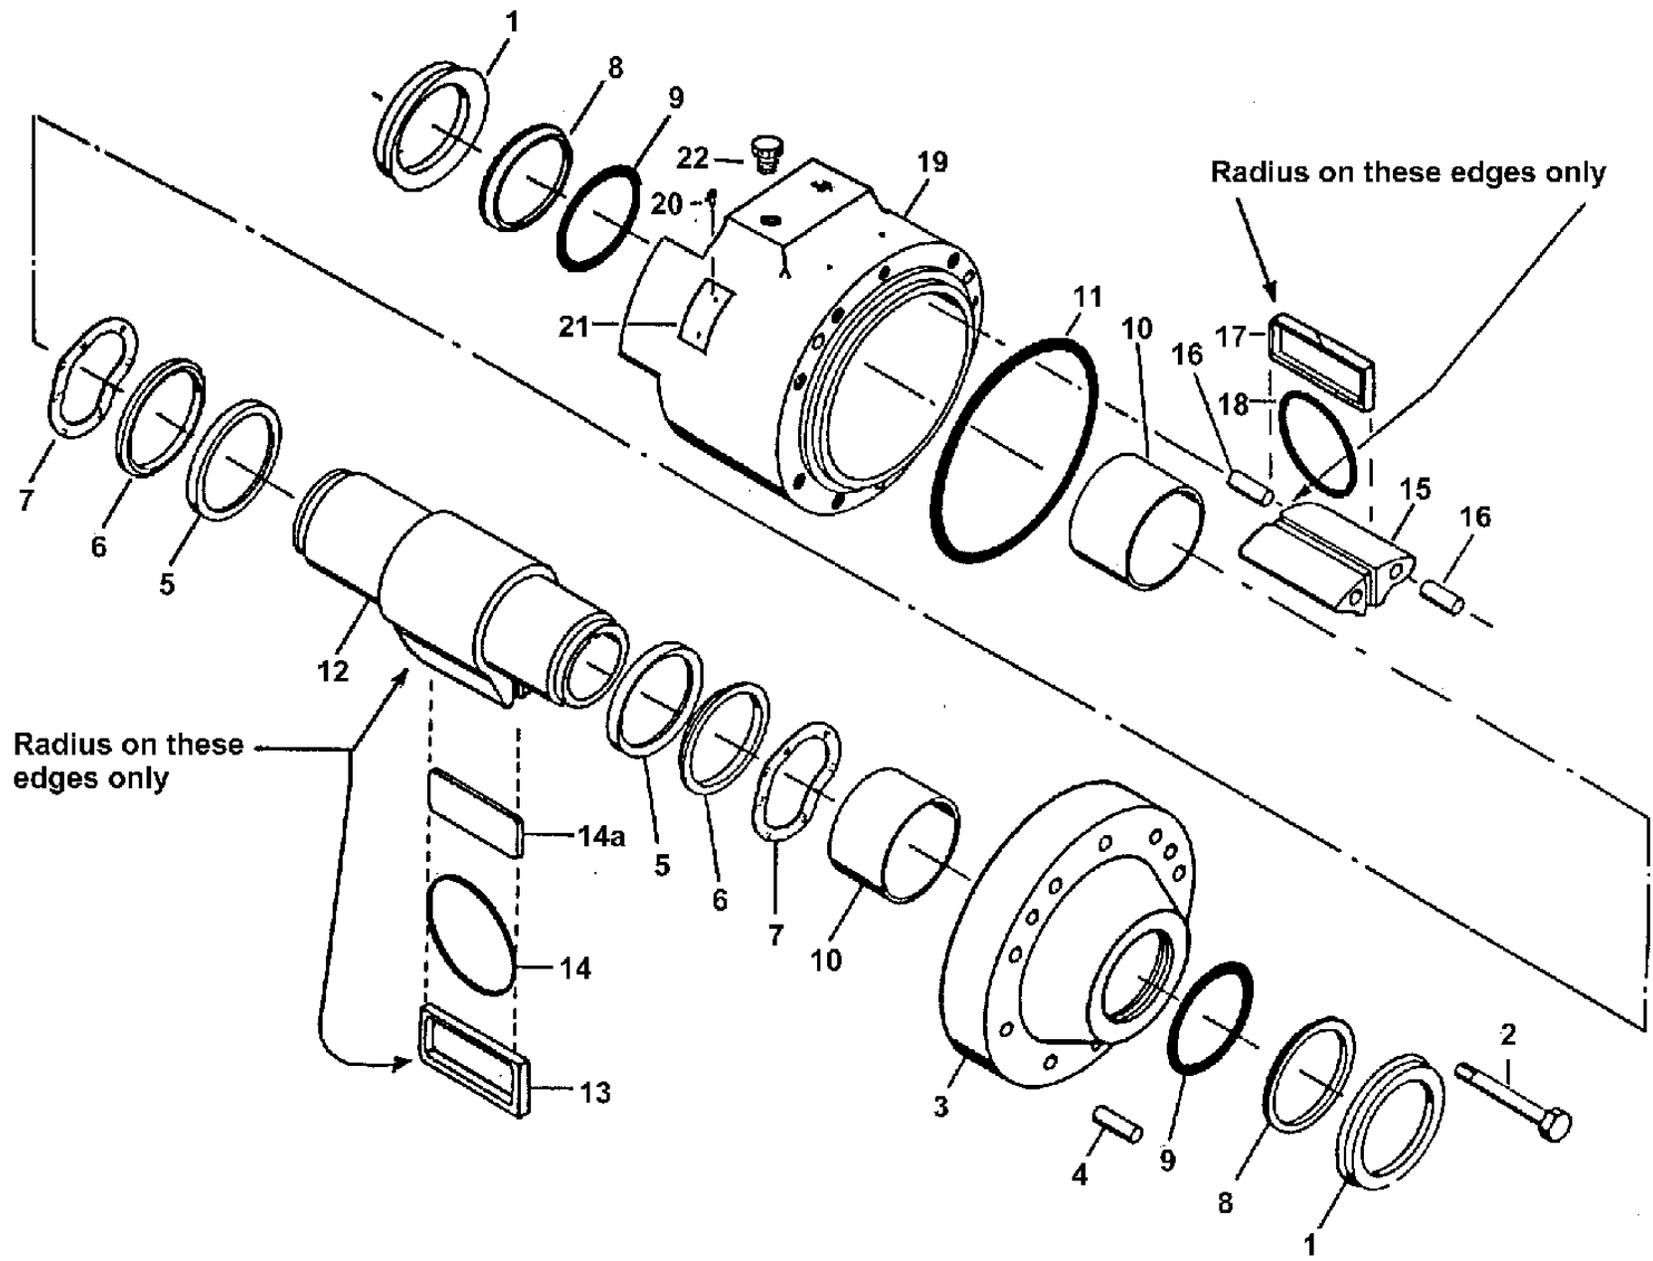

Figure 5a -- Old Style HS Series Rotary Actuator Assembly exploded view. See page 8 for reference
c1. Figure 5a. Some older styles have a vane seal spacer. Install the vane seal spacer (14a), vane seal gasket (14), and square type vane seal (13) in the groove in wing shaft (12) noting that the edge radius on seal (13) and wing shaft (12) are on the same side. Coat seal (13) liberally with lubricant.